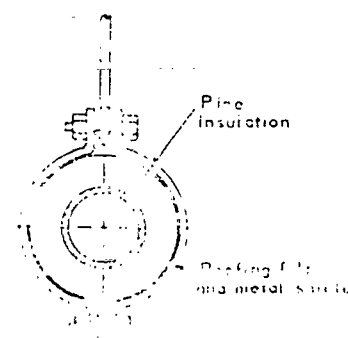

FIGURE 3
5.1 Pipe hangers shall not be attached to the pipe but shall be placed over the insulation and have a protective finish as shown in Figure 3. The insulation under the hanger clamp shall be protected by a piece of roofing felt and a metal shield of 0.110 inch (No. 10 ga) galvanized iron extending for a distance equal to one half the diameter of the insulation on either side of the hanger, and shall extend up the sides of the insulation to the center line of the pipe. See Figures 3 and 4.